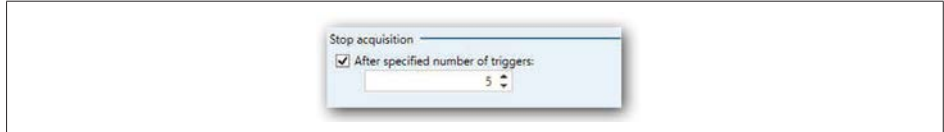

Fig. 9.25 Stop acquisition
- B A recording with multiple sweeps (in this case 5 triggers specified), first recorded to (very fast) trigger memory and after that collected in a PNRF file on a drive (see Fig. 9.25).